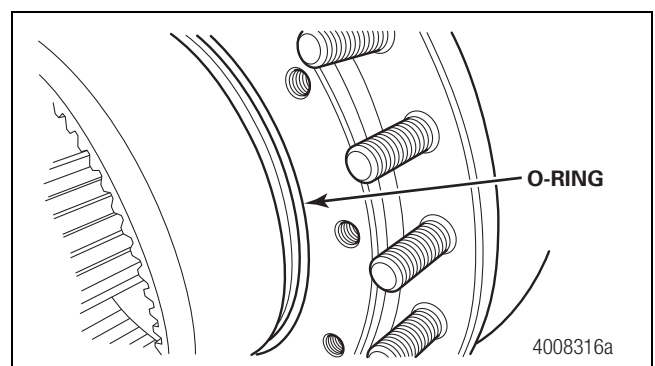

Figure 13.10
13. Install the outer O-ring seal onto the hub face. Figure 13.10.